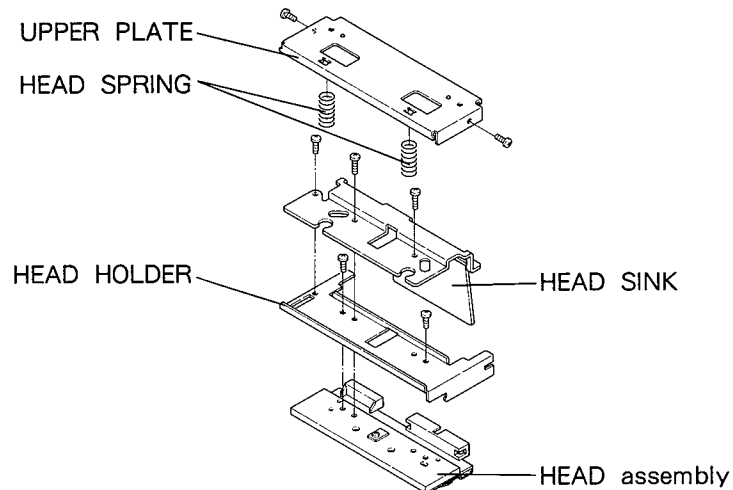

Fig. 13
5. Remove the screws securing the UPPER PLATE. (Fig. 13)
7. Remove the screws securing the HEAD SINK. (Fig. 13)